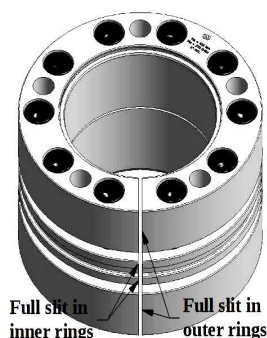

Figure 3a.
2. Check to ensure that slits of all locking rings are aligned. A light misalignment will be noticed in case staggered slits are machined in front and rear outer rings (see Figures 3a and 3b).